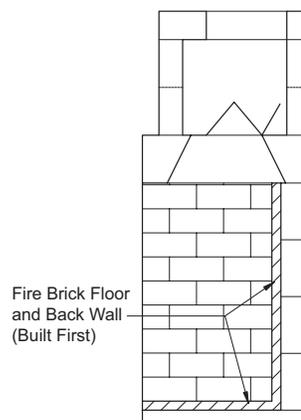

FIGURE 78
5. Set the side wall firebrick by starting at the front edge of the unit's side wall and working inward toward the back wall firebrick. The side wall firebrick, when completed, covers the 1/2" expansion gaps where both the floor firebrick and the back wall firebrick were held off the units side walls. (Figure 78)